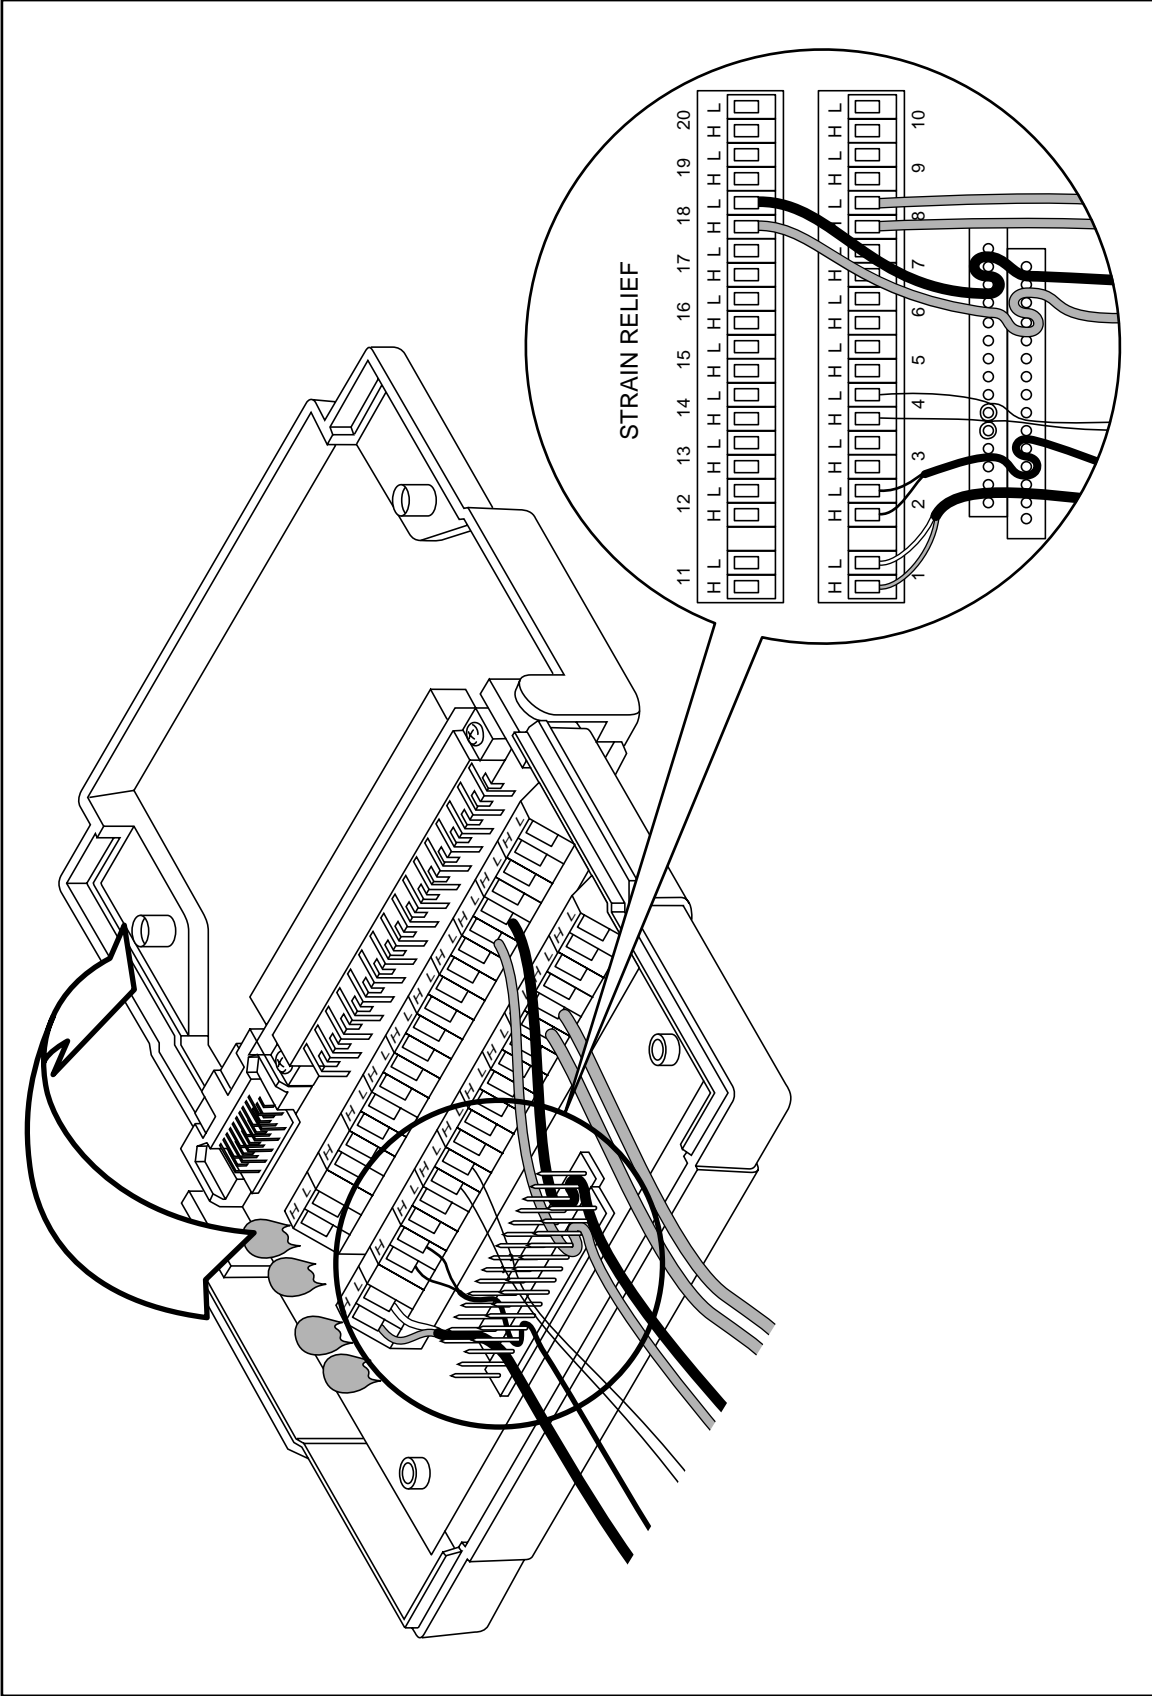

Figure 3-2. Input Module Connections
4. Thread these wires through the strain-relief pins and out the back of the module. Refer to Figure 3-2.